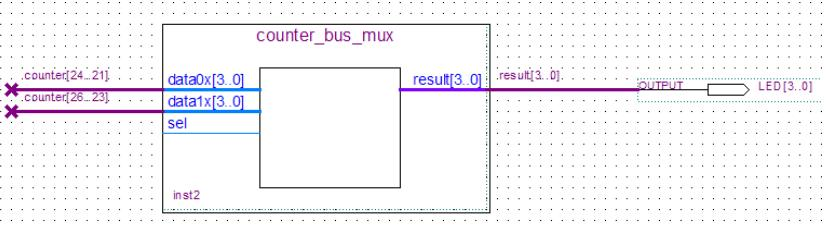

Figure 6-39 Rename the output pin
- Rename the output pin as LED [3..0]. (see **Figure 6-39**).